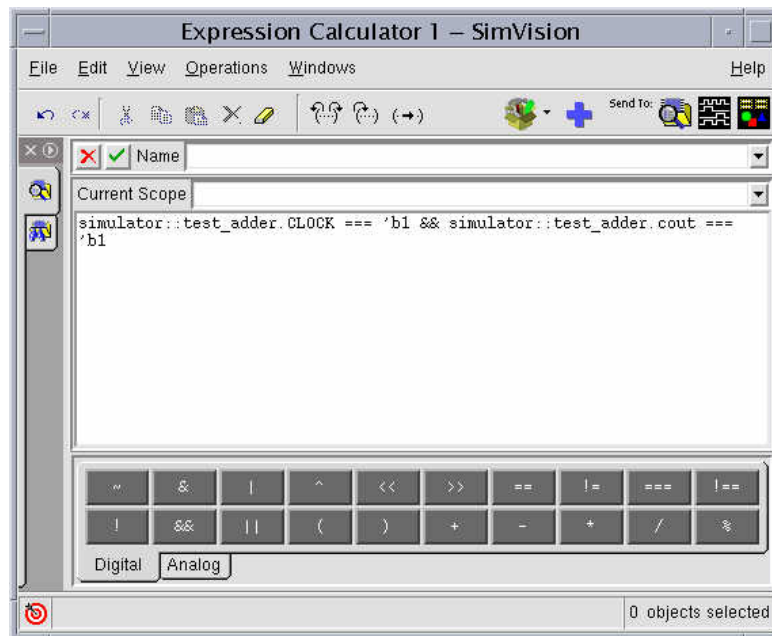

Figure 3-24 Expression Calculator.
2. Choose **Edit → Create → Condition**. SimVision opens the **Expression Calculator**, as shown in figure 3-24.